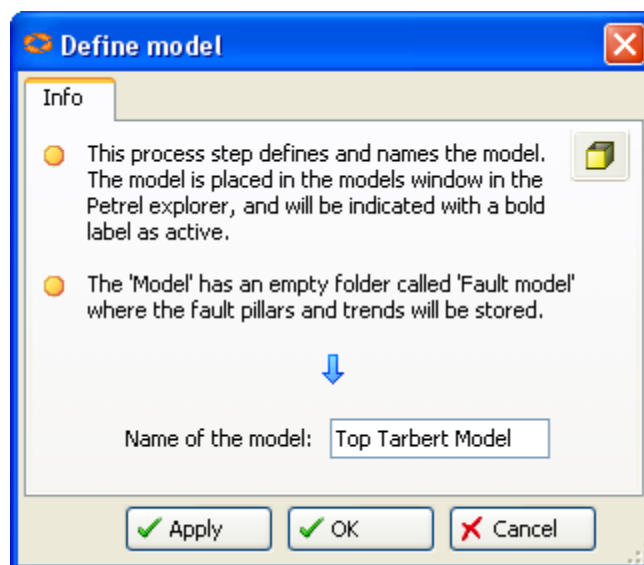

Fig.11.1: The Define model dialog box
2. A Define Model dialog box pops up, give the model a specific name **Top Tarbert Model** and click **OK**. The model will be placed under the Models pane, as shown in Fig. 11.1.